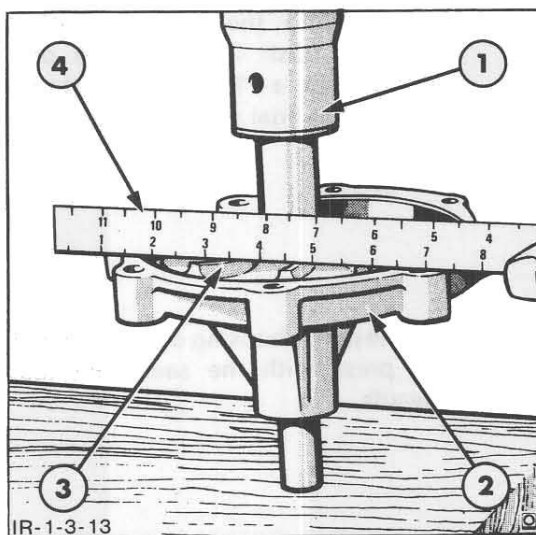

Figure 13
5. Support the shaft on a block of wood and use a length of pipe of suitable internal diameter to press the impeller onto the shaft and flush with the rear face of the housing. Check the final position with a straight edge, Figure 13.